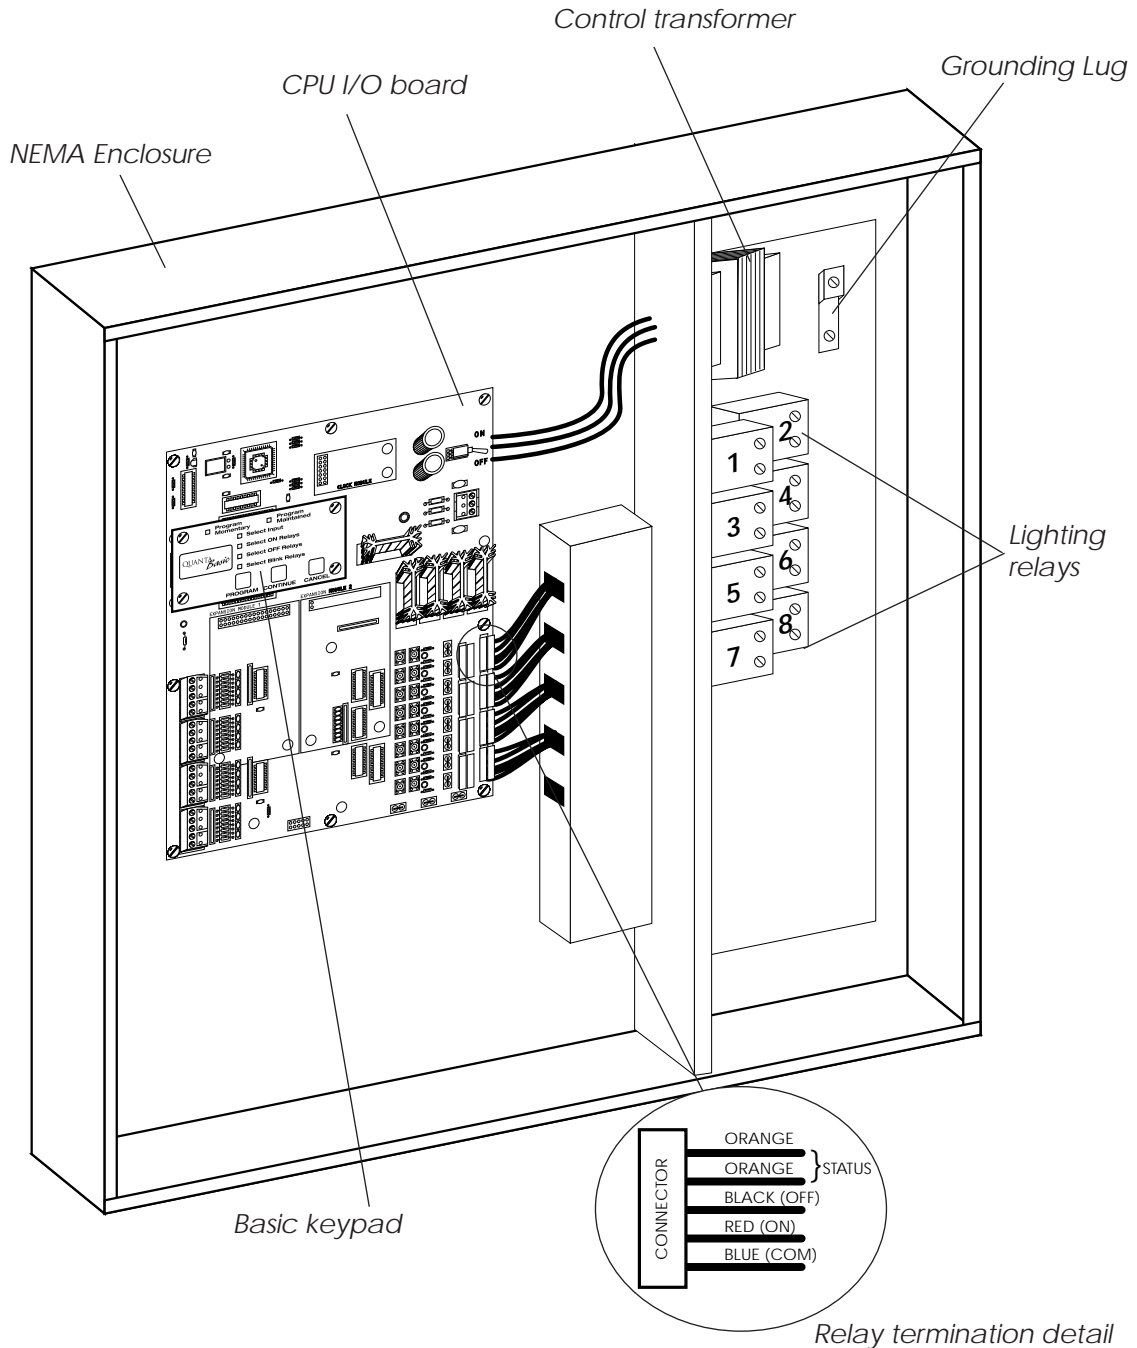

Figure 1.1 – QUANTA Basic 8 Controller
The major components making up the controller are: (See Figure 1.1.)
1.1.1 Enclosure – The enclosure is rated NEMA 1. It is divided into a line voltage section containing the line voltage side of the control transformer and lighting relays and a low voltage section containing the Class 2 side of the lighting relays, transformer secondary, and electronic components. Enclosures are available in 6 sizes to accommodate 8, 16, 24, 32, 40 and 48 inputs, outputs, and lighting relays. (See Table 1-1). The QUANTA Basic is shipped to the job-site as a complete assembly. (See Figure 1-1 which illustrates a QUANTA Basic 8.)